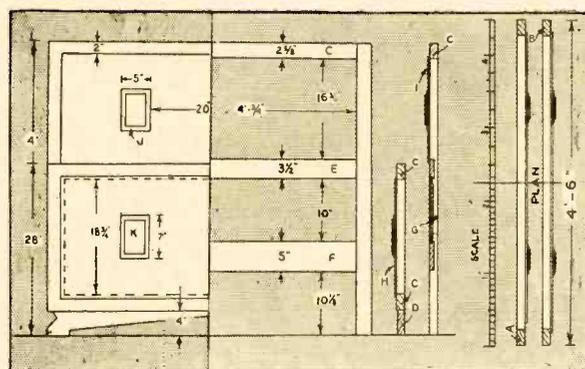

Fig. 2—Scale elevations and sections of head and foot ends of bedstead. Plan given at right.
The head posts (A) and rails (C, E and F), together with the foot posts (B) and rails (C) should be of selected, straight-grained oak for first choice. Fig. 2 gives all the necessary sizes for shouldering the rails, and Fig. 4 shows three mortises on the inside edges of each of the head posts for the corresponding tenons of the head-rails. Between the two tenons on the bottom of the head posts and also on the edges of the rails, grooves to a depth of  $\frac{3}{8}$  in. must be worked for the bottom head panel (G)—this panel, of course, being clamped up with the rails.
The panels (H and I) Fig. 2, may be of oak-faced plywood, and are simply pinned and glued to their respective frames. If, however, a thicker panel is desired, a suitable section is given in Fig. 5. This entails much more labor, but is recommended because of its strength.